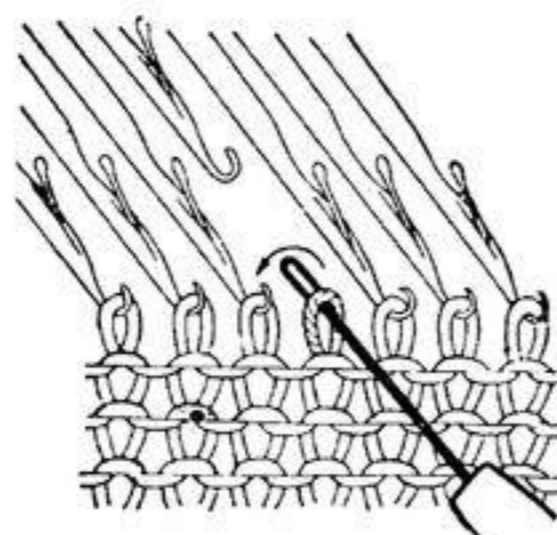

Fig. 35-4
4. Lift the 'eye' of the Transfer Tool out of the needle hook and place it into the hook of the next needle. (Fig. 35-4)